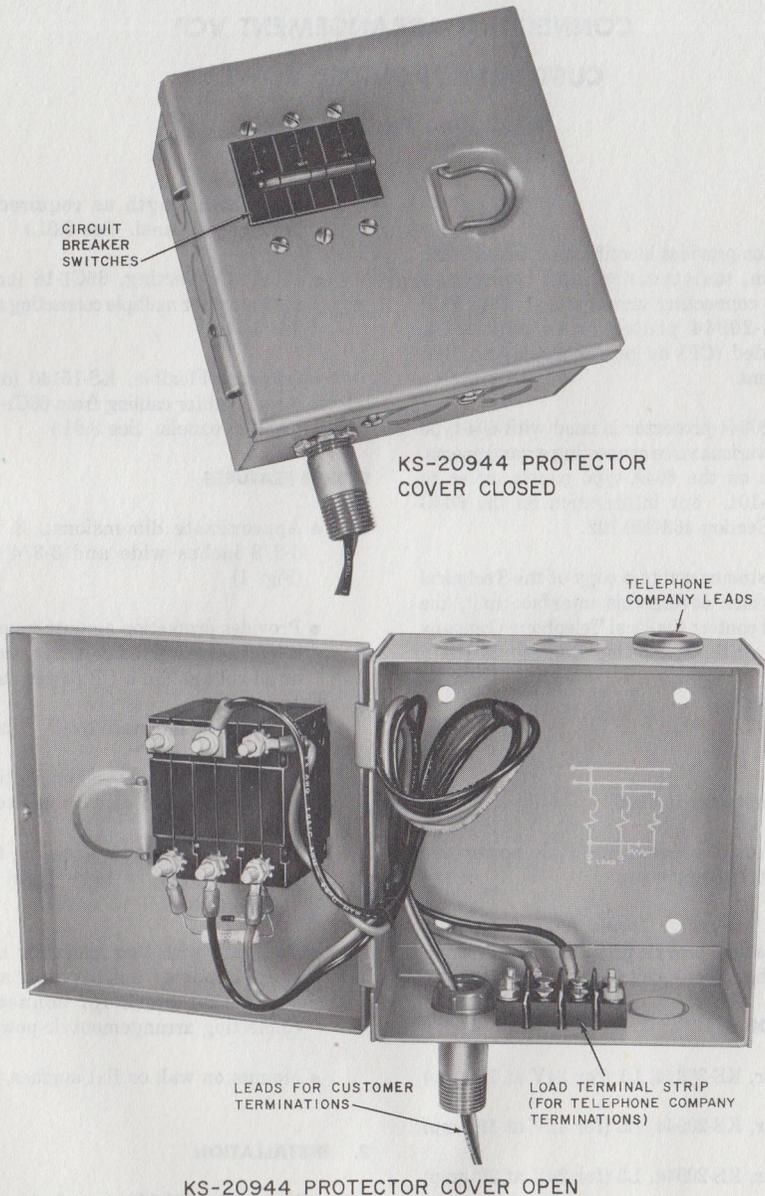

Fig. 1—KS-20944 Protector
- Approximate dimensions: 8 inches high, 6-3/8 inches wide and 3-3/4 inches deep (Fig. 1)